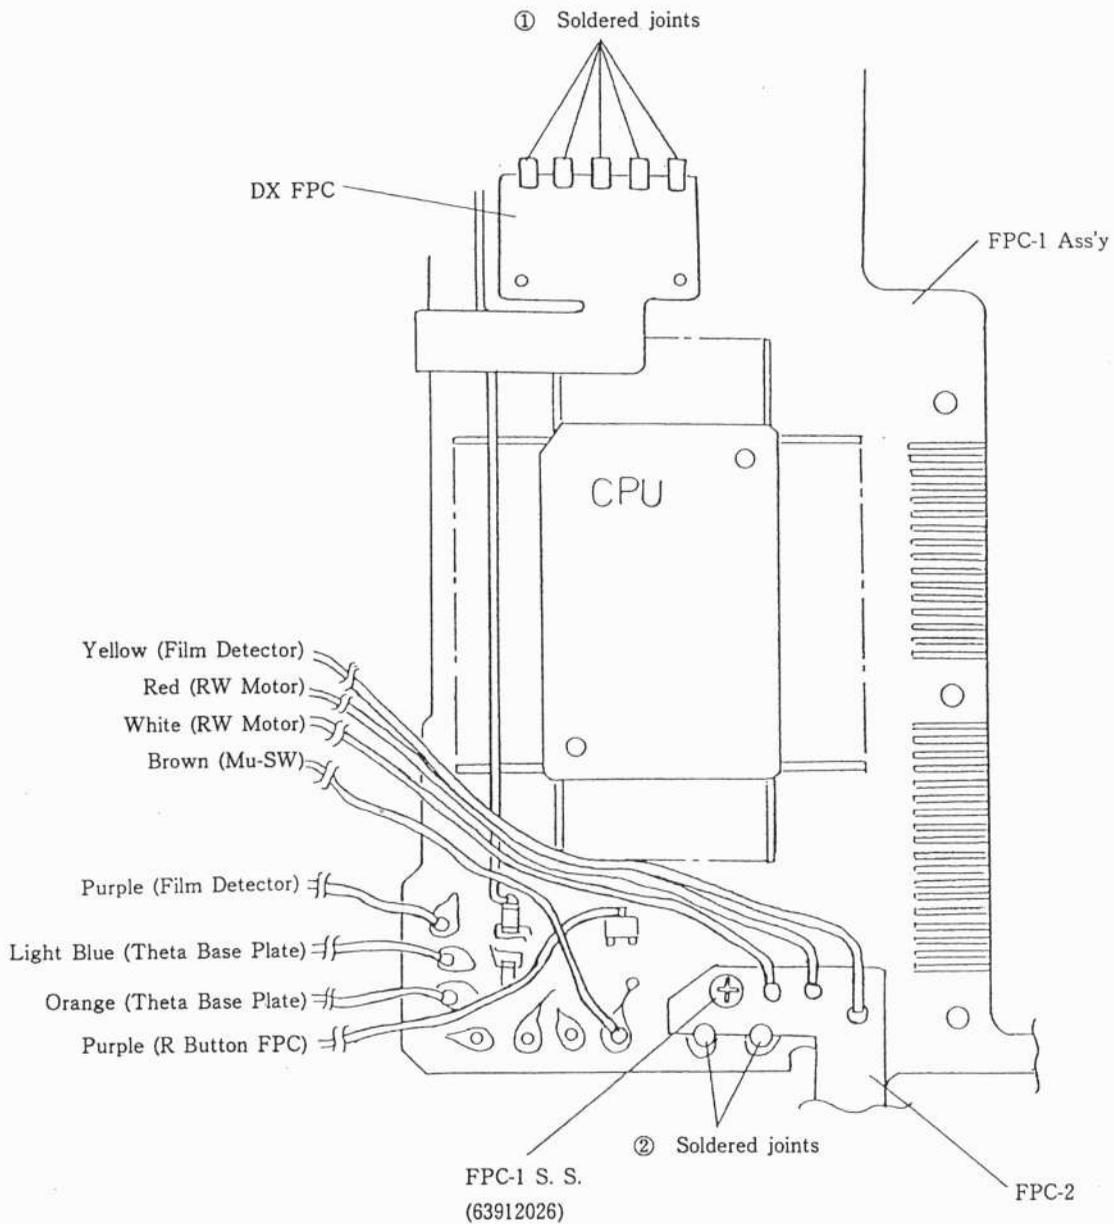

Fig. 28
- 9) Unsolder of the 8 lead wires in Fig 28.
- 11) Unsolder 7 soldered joints in ① and ② below.